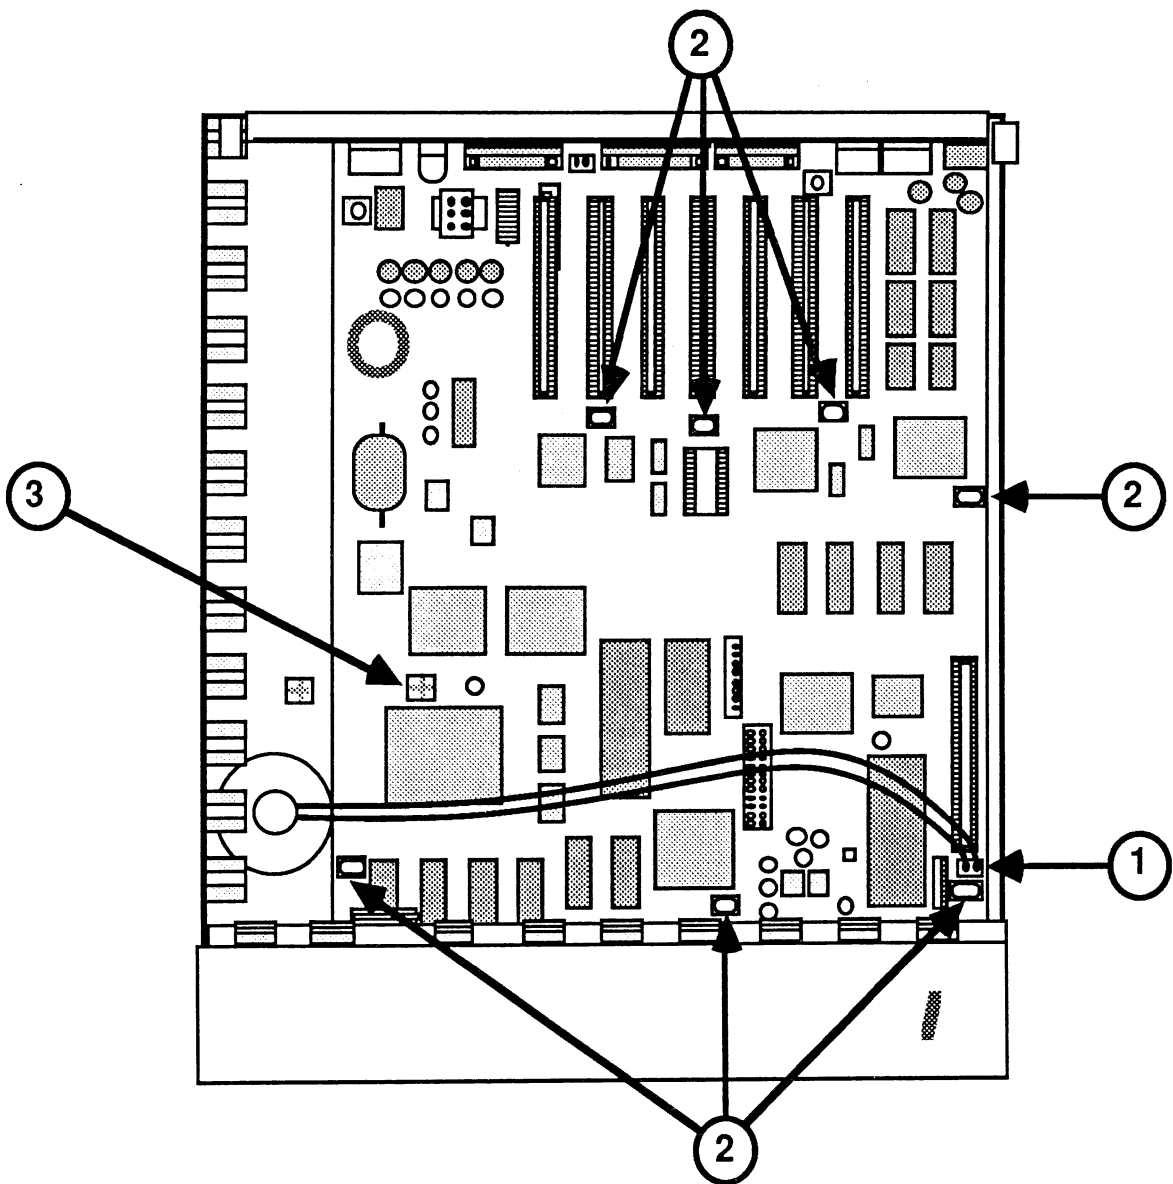
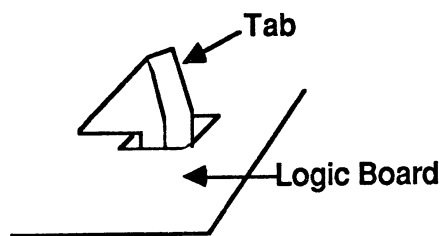

FIGURE 5
FIGURE 5a
5. Disconnect the speaker wire (see Figure 5, #1).
6. Locate the seven tabs which hold the logic board in position (see Figure 5, #2).
7. Starting at the front of the board, squeeze each tab (see Figure 5a) one at a time, gently lifting the board up as you proceed to the rear of the board. Be sure all seven tabs have been released (see Figure 5, #2).
1. Line up the connectors on the rear of the logic board with the openings on the rear of the case. Be sure to position the board so that the large mounting tab slips into position (see Figure 5, #3).
2. Gently press the board onto the seven tabs (see Figure 5, #2).
3. Connect the speaker wire (see Figure 5, #1).